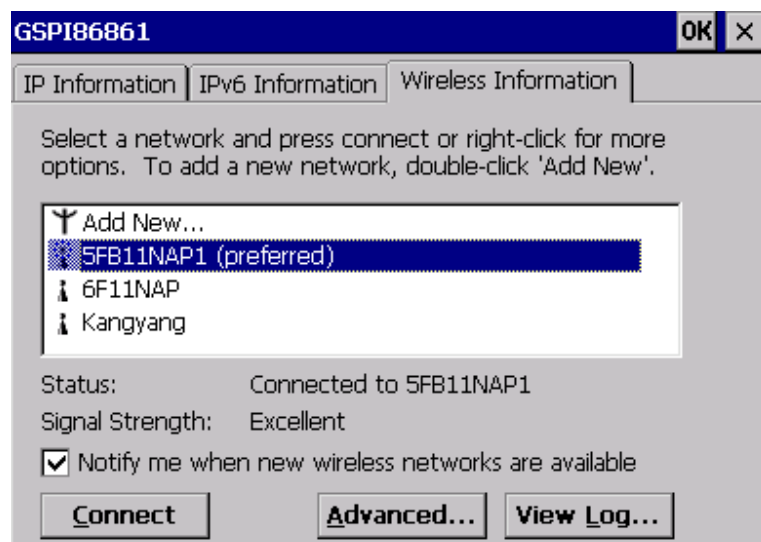

Figure 4-15: Wireless AP Connected
Step 4: You must input the password into the Network key. Click OK. The soft AP configuration is finished. (Figure 4-15).